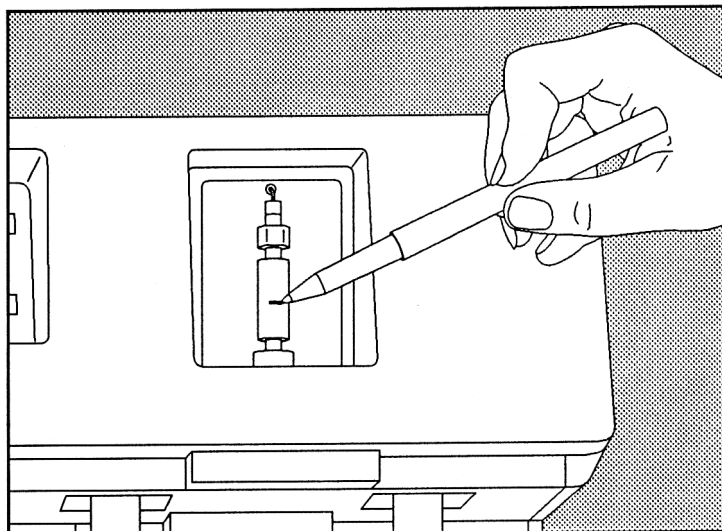

Figure 20. Marking the flow test calibration tube
2. Make a thin, horizontal mark on the flow test calibration tube to indicate the level of the DMF in the column (Figure 20). The mark should be level with the bottom of the meniscus. Press the **OK** soft key.